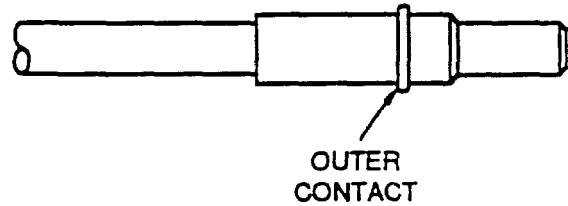

Figure 27. Install Outer Contact
i. Install center contact and cable assembly into outer contact until it bottoms (Figure 27).
d. Install center contact and cable assembly into outer contact. Ensure that all braided shield strands enter inside outer contact (Figure 27).